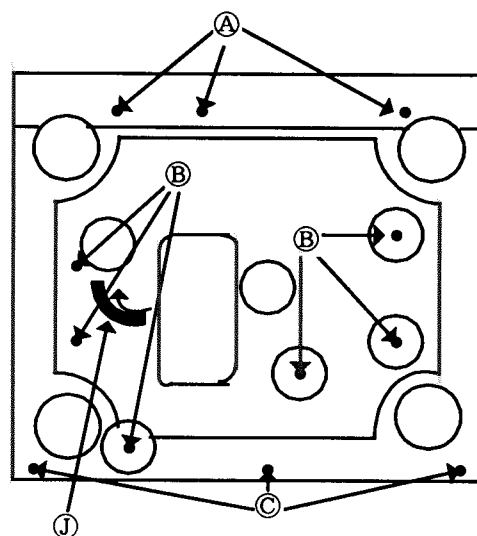

Fig 1 Bottom view
3. Remove 7 screws (A,D,E and F)(Fig.1,2,3).
2. Remove 14 screws (A,B,C and F)(Fig. 1,2,3).
2. Remove 8 screws (C,G and H)(Fig. 1,4).
- (4. Move a boss on the cam which is under ①hole clockwise by a screwdriver to remove the disc tray manually, and move the disc tray forward. (Fig. 1.) And CD mechanism assembly goes down.)
(2) Life of the laser diode (Fig.1)
(Fig.1)
Figure 1 is a schematic diagram of the control system for the "Kryukovskiy" ship. It includes a table of component values and types, a detailed wiring diagram, and a smaller schematic at the bottom left.